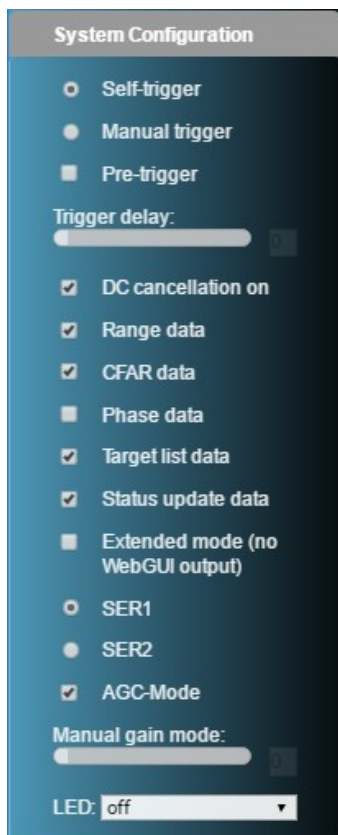

Figure 13: Save settings in the Presets tab of the Control Panel
**Save own settings:** To save your settings, click the 'New' button. The dialog in Figure 13 appears. Enter a preset name and description for your settings and click 'Save'. All settings are stored as cookies in your browser so that they are available next time when you open the browser. **Please make sure that your browser saves and keeps cookies (Mozilla Firefox) or local storage is enabled (Chrome Browser) to enable this feature. Do not use a 'private' mode and do not set up your browser to delete all saved content each time you close the window.**